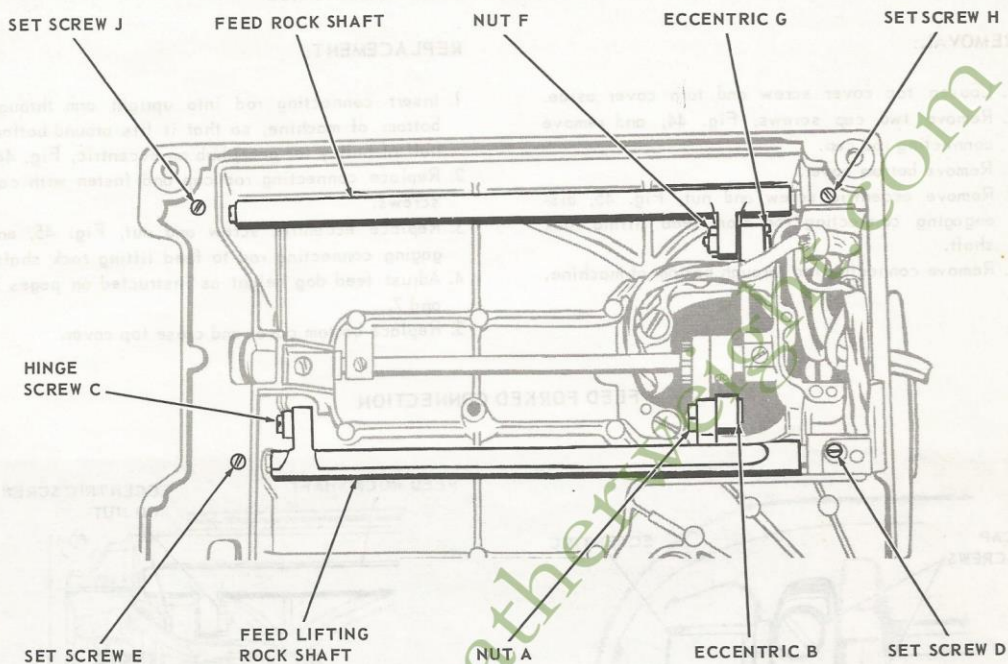

Fig. 43. Removing and Replacing Rock Shafts
2. Remove nut A and eccentric B, Fig. 43, disengaging feed lifting rock shaft from feed connecting rod.
2. Remove nut F and eccentric G, Fig. 43, disengaging feed rock shaft from feed forked connection.